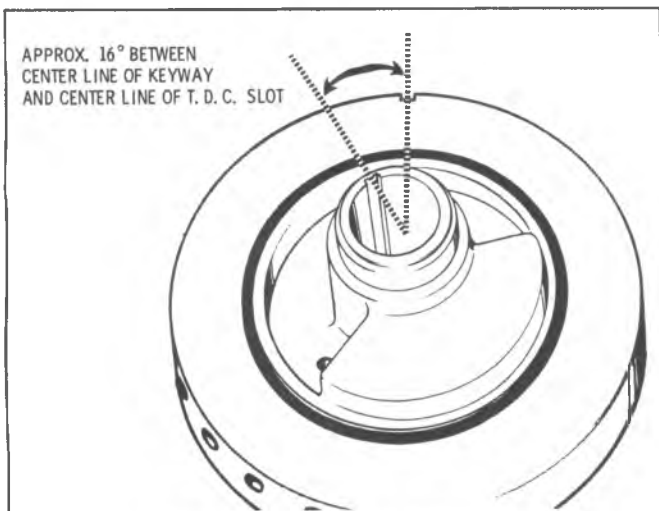

Fig. 6A6-78-Harmonic Balancer
3. Using balancer puller, remove balancer as shown in Fig. 6A6-77.
If it is suspected that the bond between the sections of the harmonic balancer has been broken and the slot changed, it can be visually checked as shown in Fig. 6A6-78. The center of the keyway should be approximately 16° from the center of the timing slot. In addition, there are chisel aligning marks between the weight and hub, marks should be together.